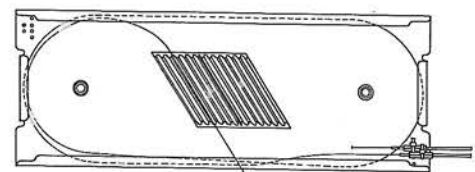

FIGURE 10
8.04 Select the fibers from one direction of transmission and route them around the tray (under the retainer lips) until the fibers have made one-and-a-half laps in the tray, Figure 10.